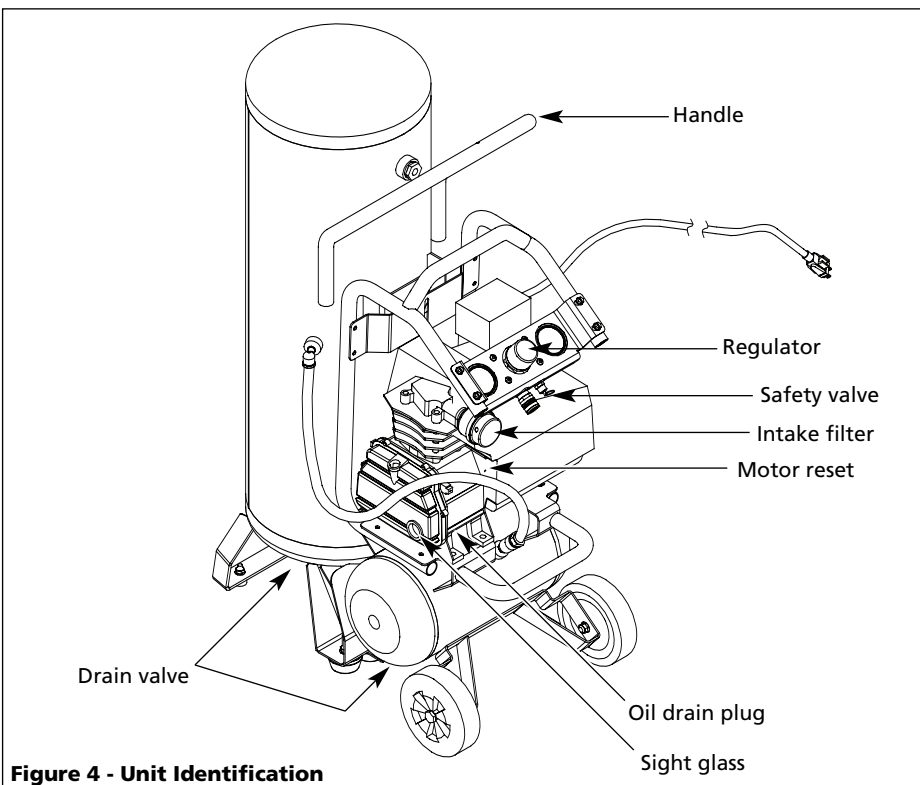

Figure 4 - Unit Identification
2. Wearing safety glasses, pull the ring on the safety valve (see Figures 4 and 8) to release pressure from compressor tank. Use your other hand to deflect fast-moving air from being directed toward your face.
1. Turn compressor off and release pressure from system. To release pressure from system, pull ring on ASME safety valve (see Figures 4 and 8). Deflect escaping air by shielding valve with one hand as you pull ring with other hand. Pull ring until tank is empty.
2. Drain moisture from tank by opening drain valve (see Figure 4) underneath tank. Tilt tank to remove all moisture.